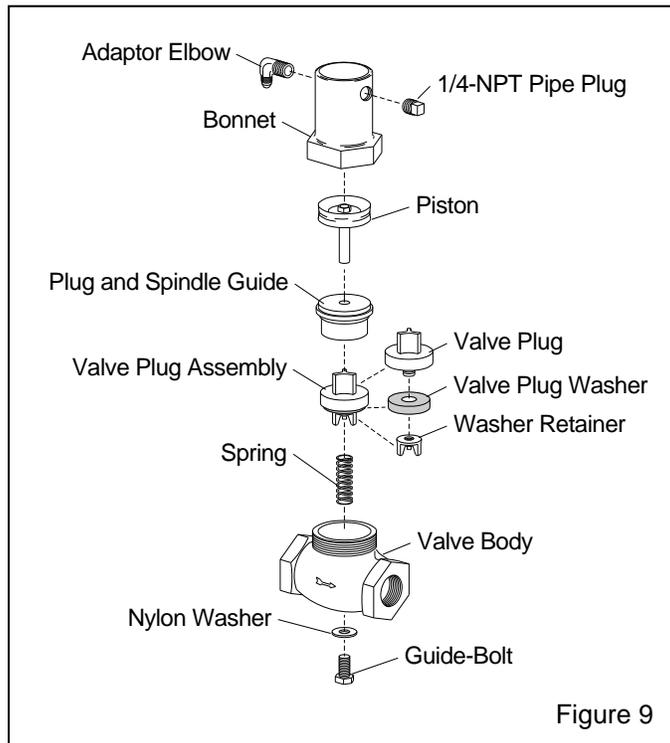

Figure 9
6.4 Piston Outlet Valve (standard), Ref. Figure 9